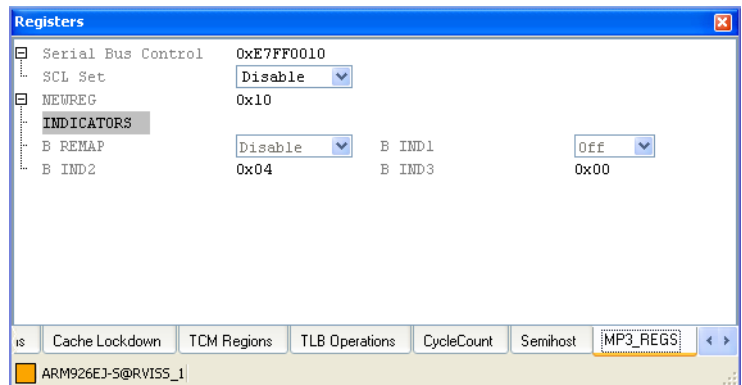

Figure 4-31 MP3\_REGS tab in the Registers view
3. Select the **MP3\_REGS** tab to view the custom registers. Figure 4-31 shows an example: